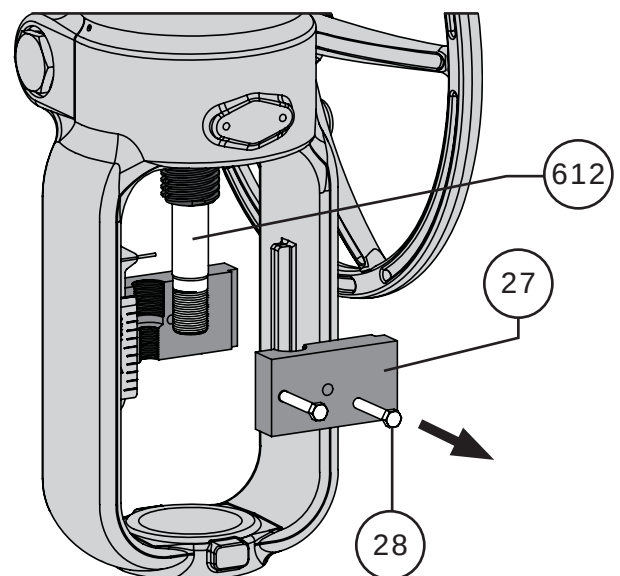

Figure 79 Connecting Block Removal
- 14 Remove the stem connector cap screws (Key 28) and remove the stem connector (Key 27) if still attached to the actuator stem (Key 612). Refer to Figure 79.